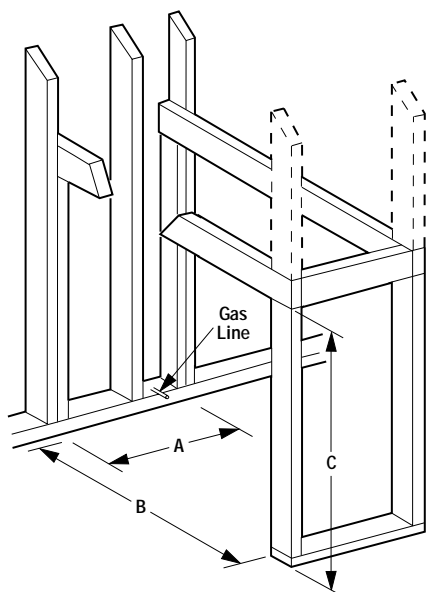

Figure 4
Step 1. Frame the VFST appliance as illustrated in *Figures 4 and 5*.